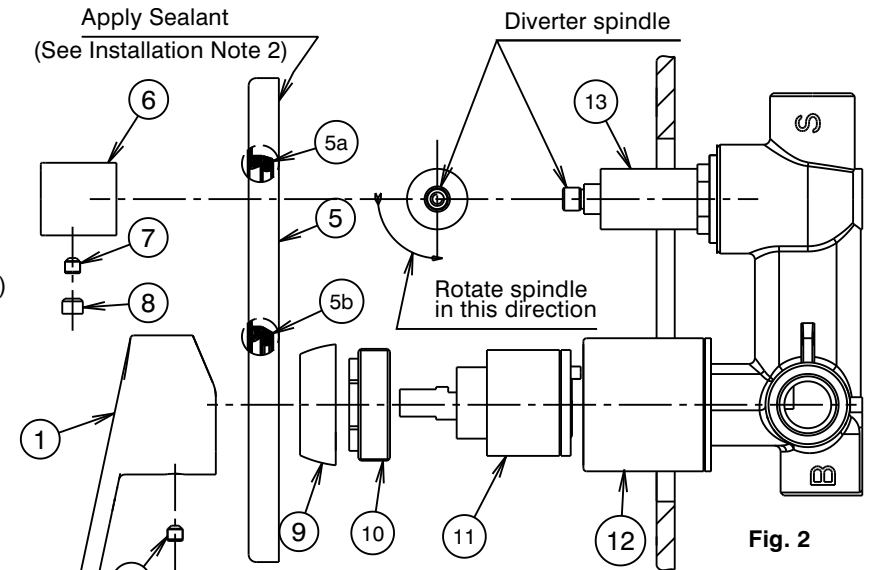
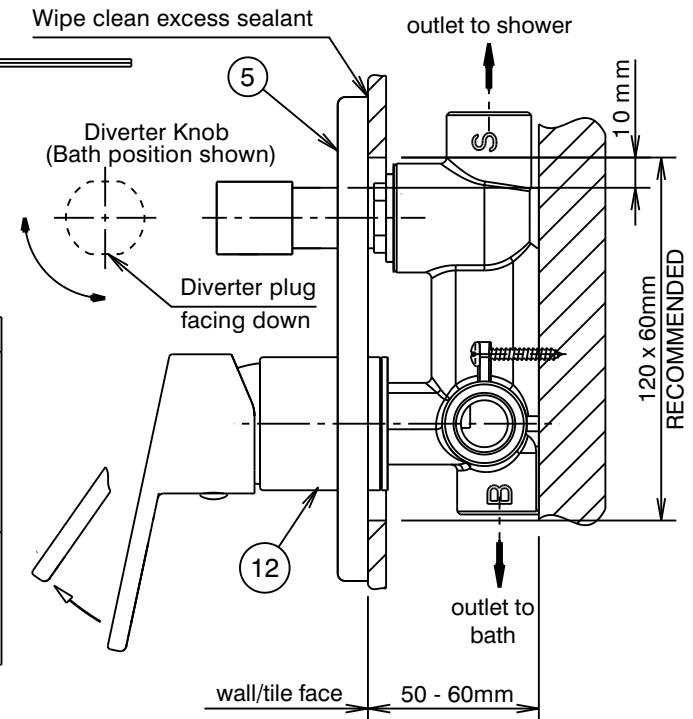

Fig. 2
Fig. 1
Installation (Fig. 1 & 2)
- * Mixer body (12) must be installed square to wall/tile face, to ensure cover plate (5) sits flush.
- 2) **Trim kit:** Apply a suitable clear sealant to the back edge of the cover plate (5), leaving an unsealed section at the bottom for drainage. Check that the diverter sleeve (13) is tightened securely. Rotate the spindle of diverter in an anti-clockwise direction to the stop position (Fig.2). Check that the seals (5a) & (5b) are fitted in the cover plate (5) as shown, then carefully slide the cover plate (5) over the mixer body (12) and diverter sleeve (13). Push the cover plate (5) firmly against the wall/tile face. Wipe/clean excess sealant from the chrome surfaces & the wall/tile face (See Fig. 1).
- 3) Fit diverter knob (6) onto the diverter spindle, ensuring the hole for screw (7) is facing downwards as shown (Fig.1), then tighten grub screw (7) using the 2.5mm allen key (3) and fit plug (8).
- 4) Fit handle (1) taking care that it is pushed fully onto cartridge stem, then tighten grub screw (2) using the 2.5mm allen key (3). Fit plug (4), taking care not to damage the decorative finish.
Note: To deliver water to the bath outlet, rotate the diverter knob (6) anti-clockwise with the flat face horizontal and the handle plug facing downwards. (Fig.1). To deliver water to the shower outlet, rotate the diverter knob (6) clockwise with the flat face in a vertical position.
Replacing Cartridge (Fig. 2)